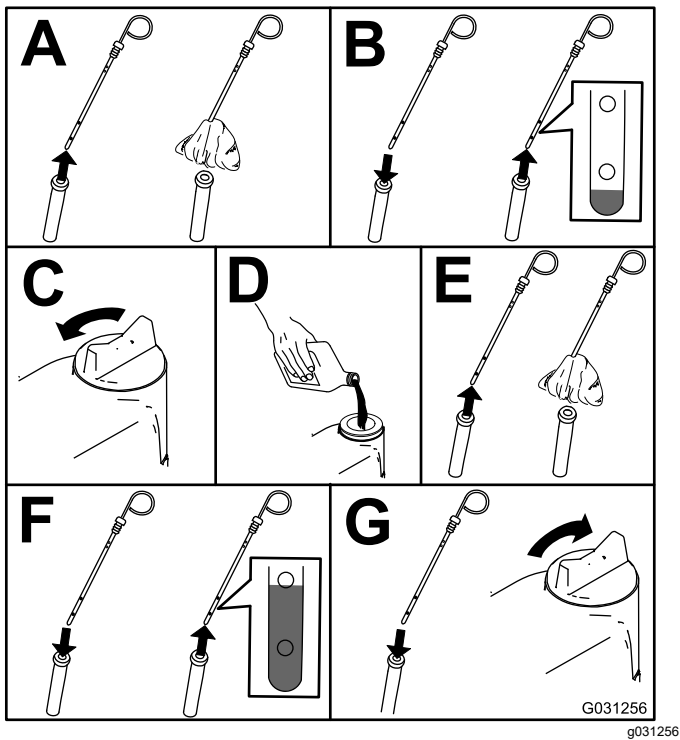

Figure 49
2. Check the engine-oil level; refer to Figure 49.